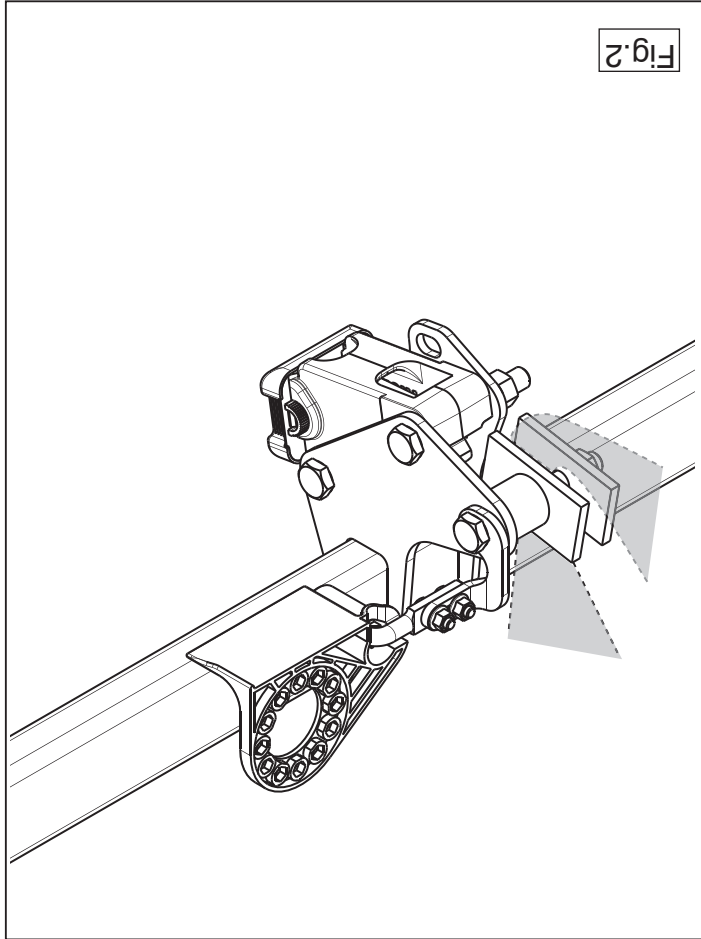

Fig.2
5. Monteer de dwarsbalk D in het midden aan de sleepoog inclusief beugel (9585650) (fig.2).
5. Fit the cross beam D centrally onto the towing eye including bracket (9585650) (fig.2).
5. Den Querbalken D in der Mitte an der Schleppöse befestigen einschließlich Bügel (9585650) montieren. (Abb. 2).
5. Montera bärbalken centralt på dragkroken inklusive bygeln (9585650). (fig.2)